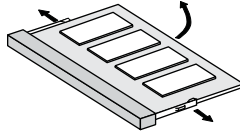

Figure 2 Removing the Memory Module
4. Using your thumbs, spread the Retaining Clips on either side of the Memory Socket outward until the Memory Module is released (**Figure 2**).